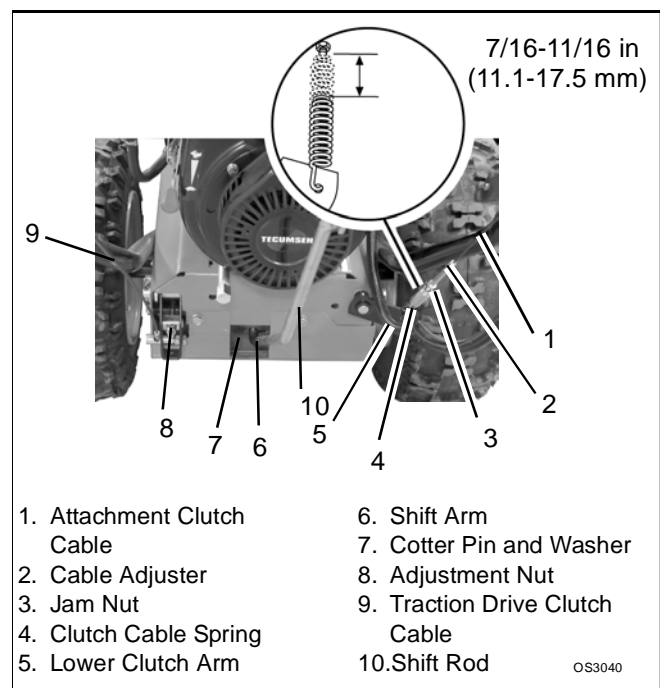

Figure 14
See Figure 14
1. Place speed selector in First (1) Forward.
3. With traction clutch disengaged turn wheels while tightening adjustment nut (Figure 14), at clutch yoke.